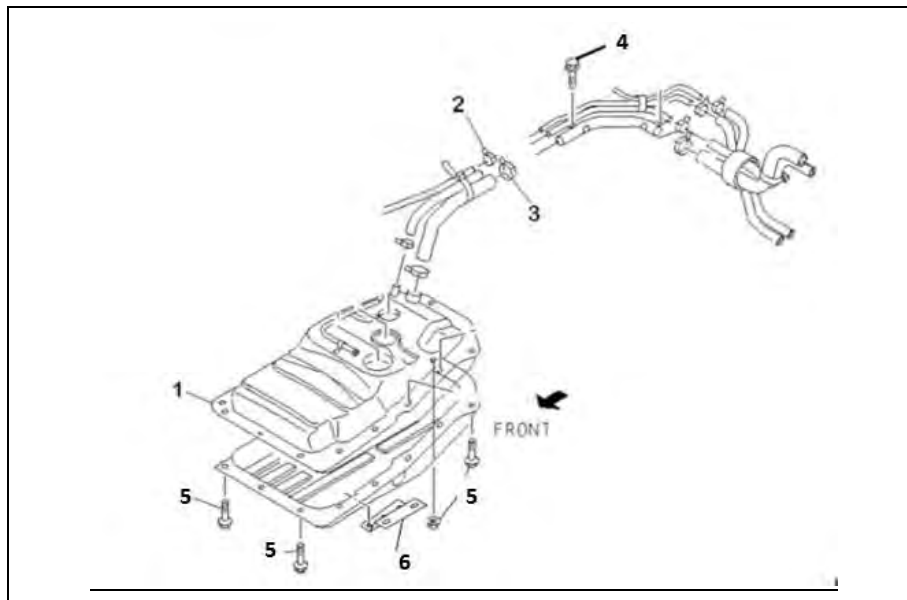

Figure 71
- d. Install fuel tank. Install new parts at locations 2, 3 and 5 as shown in Figure 71.